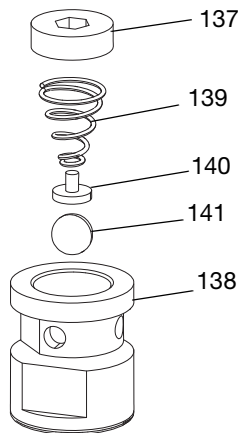

FIG. 8
- Install the ball (141), ball housing retainer (140) and conical spring (139) into the check housing (138).
- Install the spring retainer (137) cup side down into the check housing (138) to trap the spring (139) until the spring retainer bottoms out into the check housing. Torque spring retainer to 30 ft-lbs (41 N•m.) See FIG. 8, page 12.